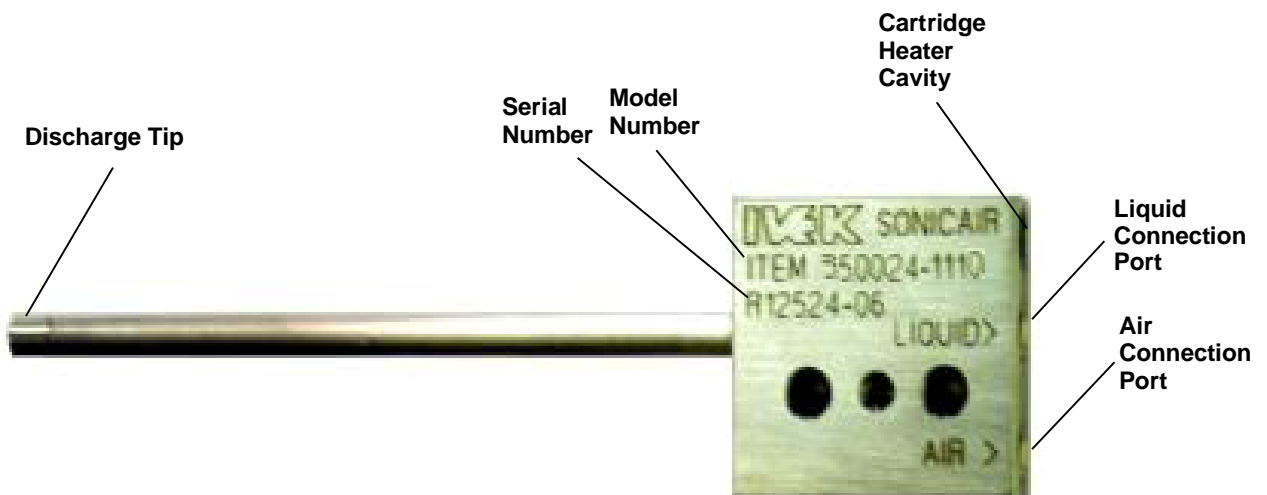

Figure 9.1 Sonicair Nozzle
9.1 DESCRIPTION (REFER TO FIGURE 9.1)